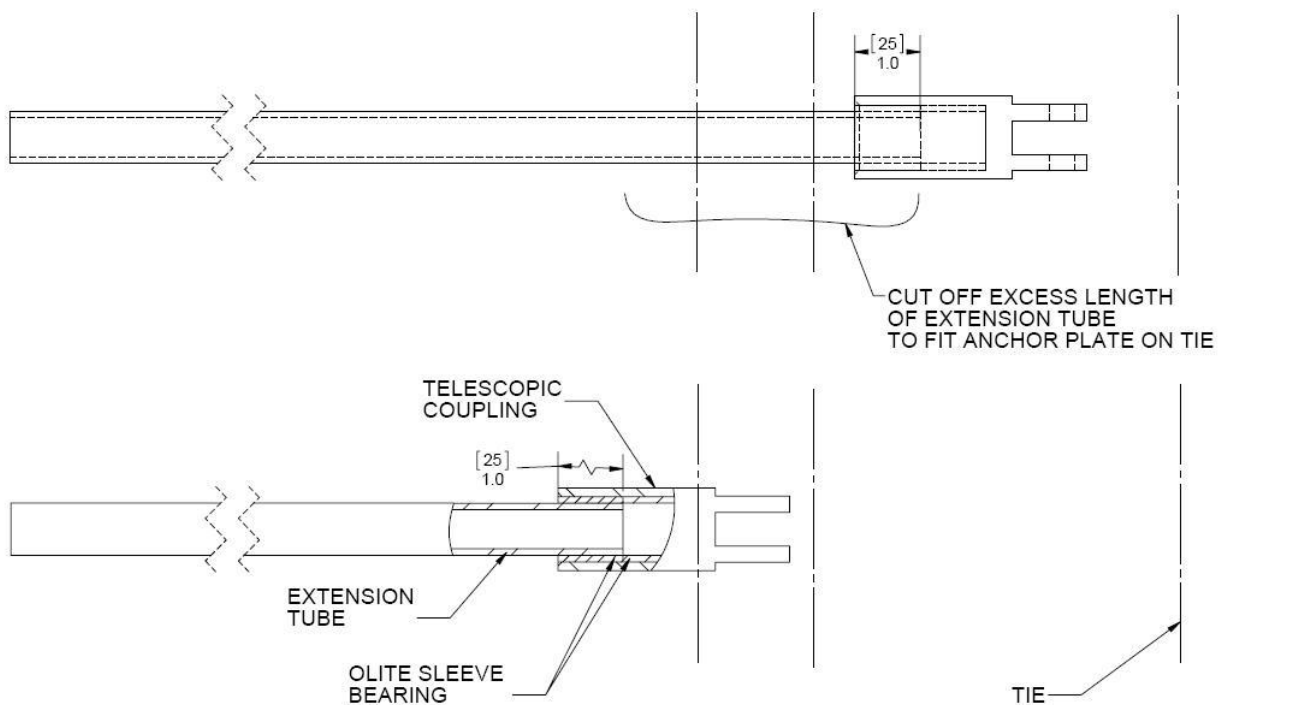

Figure 4: Telescopic Coupling Connection Detail
8. Calculate the length needed to cut on the Extension Tube in order for the next Anchor Plate sit on a tie. (See figure 4)